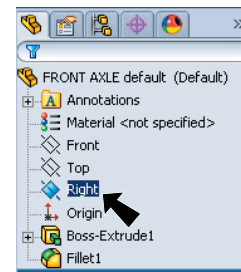

Fig. 9
Step 1. Click **Right**  (plane) in the Feature Manager to select Plane, **Fig. 9.**